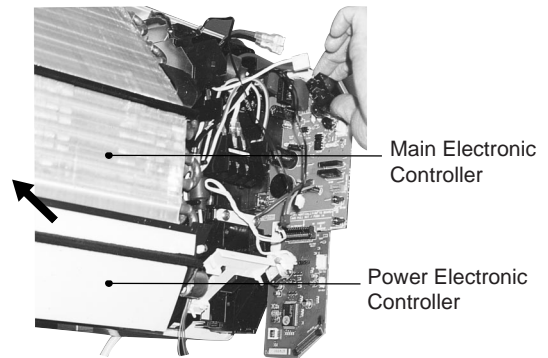

Fig. 14
2. Pull the electronic controller towards you as shown in Fig. 14.